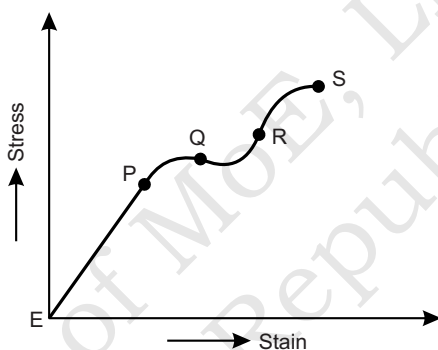

Fig. 6.24. Stress-strain graph
12. Figure 6.24 shows the stress-strain graph of a certain substance. Over which region of the graph is Hooke's law obeyed?